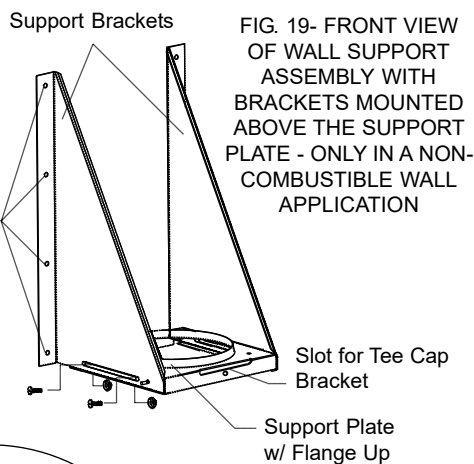

FIG 19- FRONT VIEW OF WALL SUPPORT ASSEMBLY WITH BRACKETS MOUNTED ABOVE THE SUPPORT PLATE - ONLY IN A NON-COMBUSTIBLE WALL APPLICATION
NOTE: If ground clearance does not permit the installation of the Wall Support with the Support Bracket facing down, it is permissible to invert these brackets, if in a non-combustible wall application. Inverting the brackets (brackets mounted on the wall above the support plate) can be accomplished by rotating the Support Plate so that the threaded stud faces toward the front and securing each side with (2) #8 x 3/4" bolts (not supplied) through the oblong slots of the support side brackets and the support plate as per Figures 19 and 20. Secure with nuts. In this position, the range of adjustability is limited to 5" from the wall. Install the Insulated Tee Cap as per step 15.